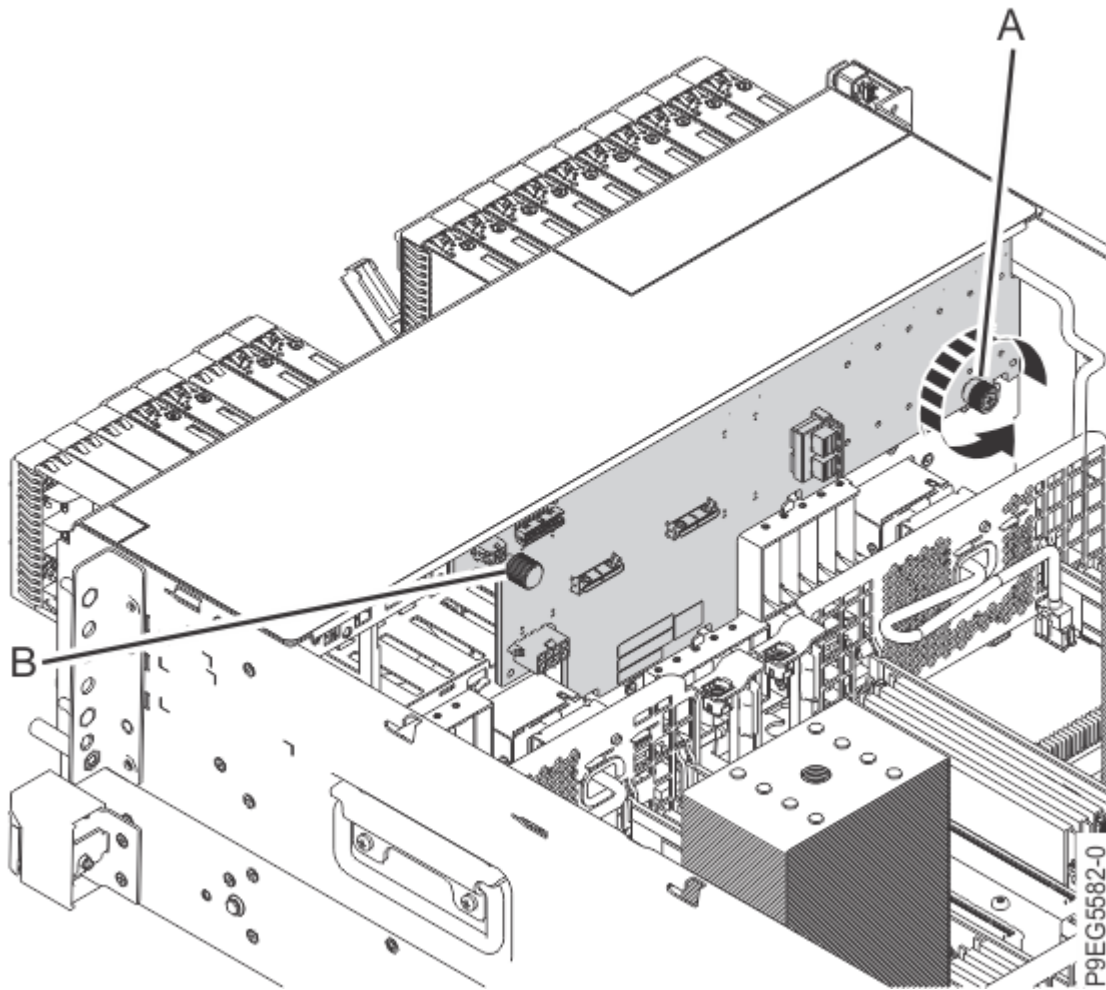

Figure 100. Loosening the NVMe drive backplane screw
10. Carefully unscrew the captive thumbscrew **(A)** of the NVMe drive backplane until fully loose as shown in Figure 100 on page 112.